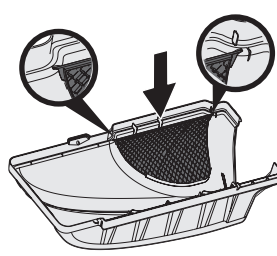

Figure 14
5. If not already installed by the factory, install the bagger screen (731-06504) into the bagger cover (631-06539) by first inserting one end into the corresponding cutout mounting hole. Make sure to feed screen under lip, as shown in Figure 14.